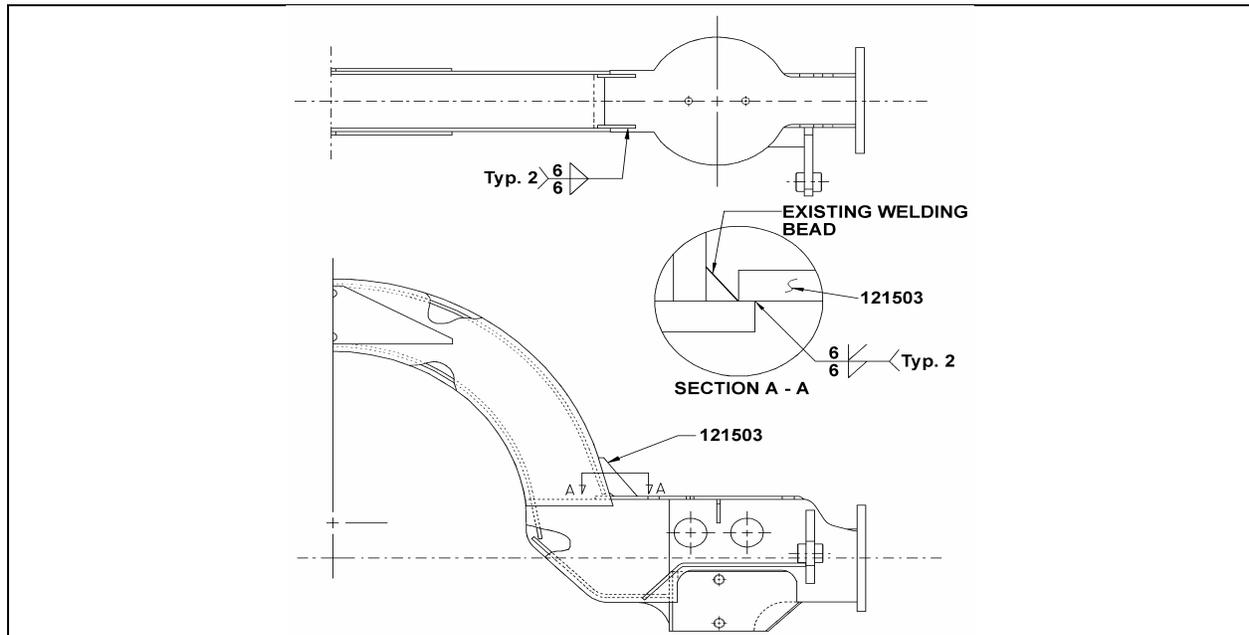

FIGURE 1
2. Remove asphalt base undercoating (Gravel Guard 3M) and any rust present near the risk or affected area, the risk areas are the joints between axle arch and sub-assemblies (refer to figure 1).
3. Check if tag axle is cracked, check if cracks are superficial by grinding the affected area to make the cracks disappear. If cracks are only superficial, chip off or grind to bare metal then reweld crack referring to paragraph: **Steel – Steel Welding**. Weld reinforcement parts referring to figure 1 welding specifications
4. If no cracks are present on tag axle, weld reinforcement parts referring to figure 1 welding specifications.
- Weld reinforcement parts as per figure 1 and refer to welding specifications indicated in paragraph: **Steel – Steel Welding:**